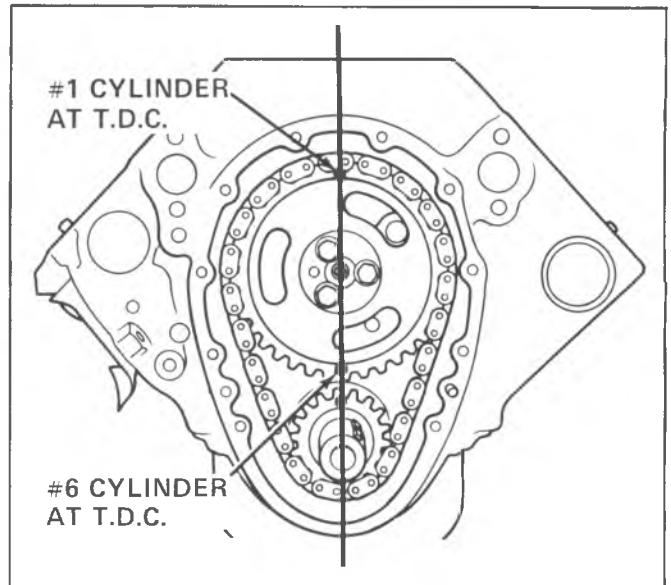

Fig. 6A5-37--Timing Sprocket Alignment Marks
2. Position indicator with ball socket adapter (Tool J-8520) on push rod (fig. 6A5-35). Make sure push rod is in the lifter socket.